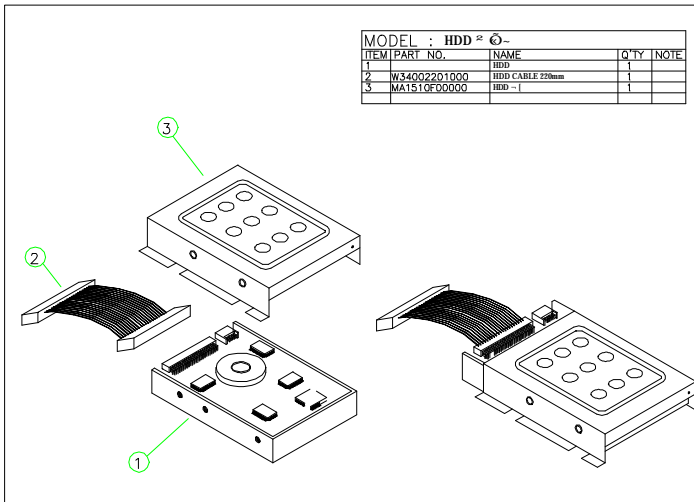

FIGURE 5-4: HDD INSTALLATION
2. Refer to Figure 5-4. Fix the hard disk drive (1) to the HDD bracket (3) with one FTS 3*5 screw.
3. Connect the one end of the 40-pin IDE cable (2) to hard disk drive.